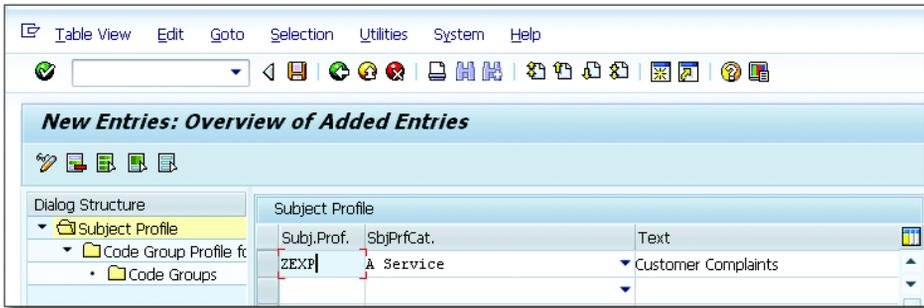

Figure 4.107 Maintaining the Subject Profile
7. Define the subject profiles by going to SPRO • CRM • BASIC FUNCTIONS • CATALOGS, CODES AND PROFILES • DEFINE SUBJECT PROFILES. Create the SUBJ. PROF., which will be assigned with a code group profile that was created in the previous step (see Figure 4.107).